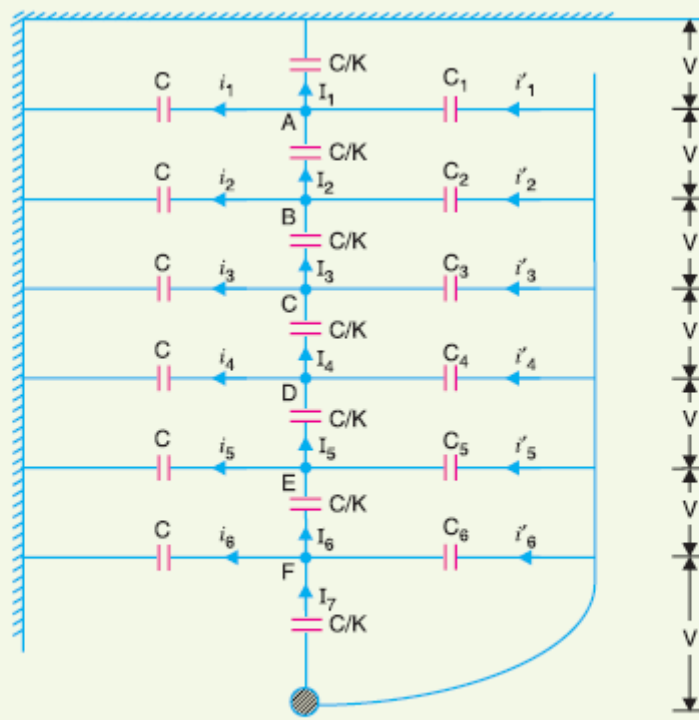

Fig. 8.22
**Solution.** Let  $C_1, C_2, \dots, C_6$  respectively be the required line to pin capacitances of the units as shown in Fig. 8.22. As the voltage across each insulator has to be the same, therefore,